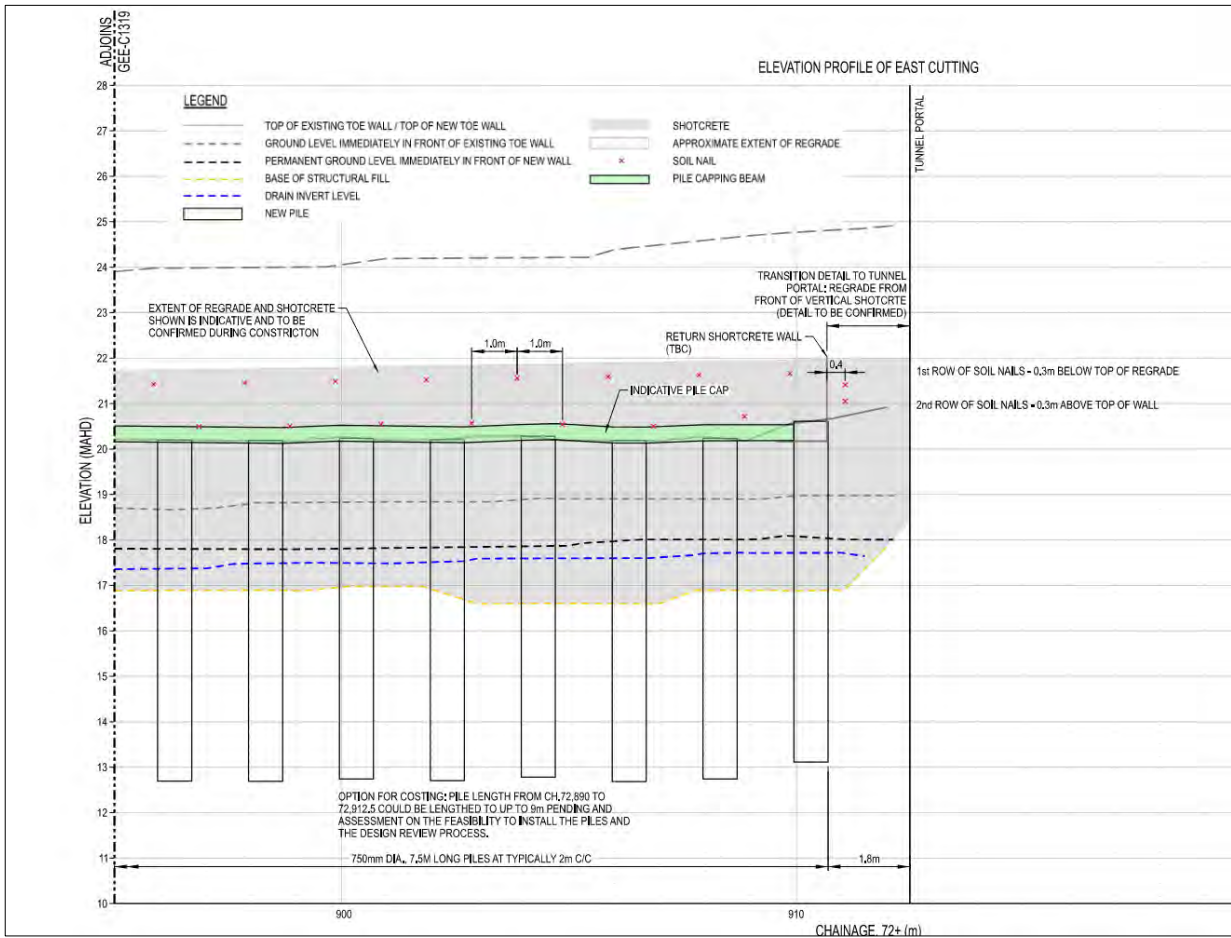

FIGURE 33: ELEVATION SHOWING RETAINING WORKS ON EAST APPROACH AT DOWN END PORTAL. (SOURCE: AURECON/VLINE)
- o New bored pile with 150mm shotcrete infill retaining walls will be spaced about 1800mm clear from portal face; (see **Figure 33 - Figure 36**);